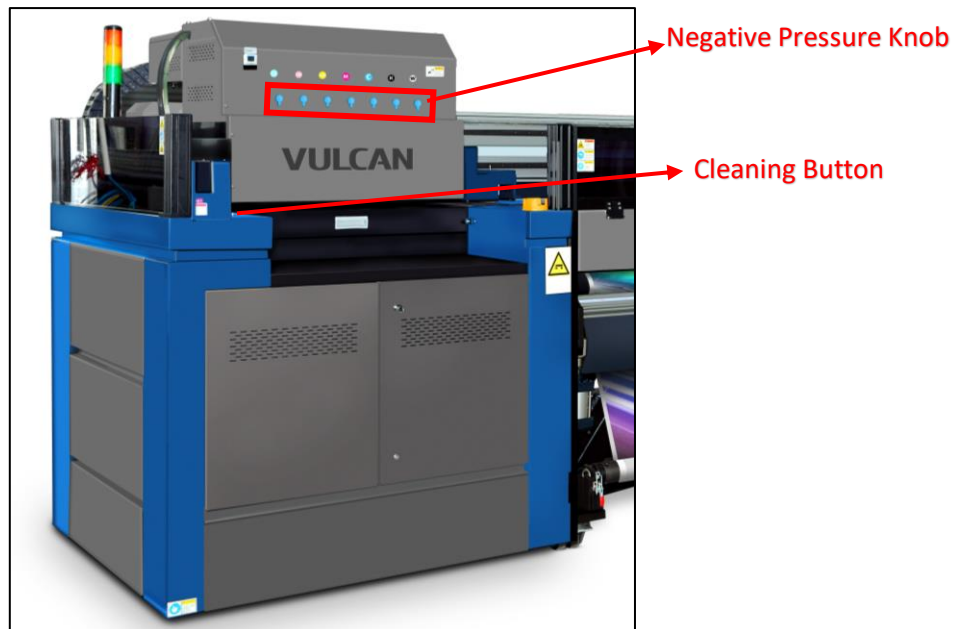

Fig 54: Performing Head Purging
**Step 2:** Press the **Cleaning** button to start the purging process (Refers to Fig 54).